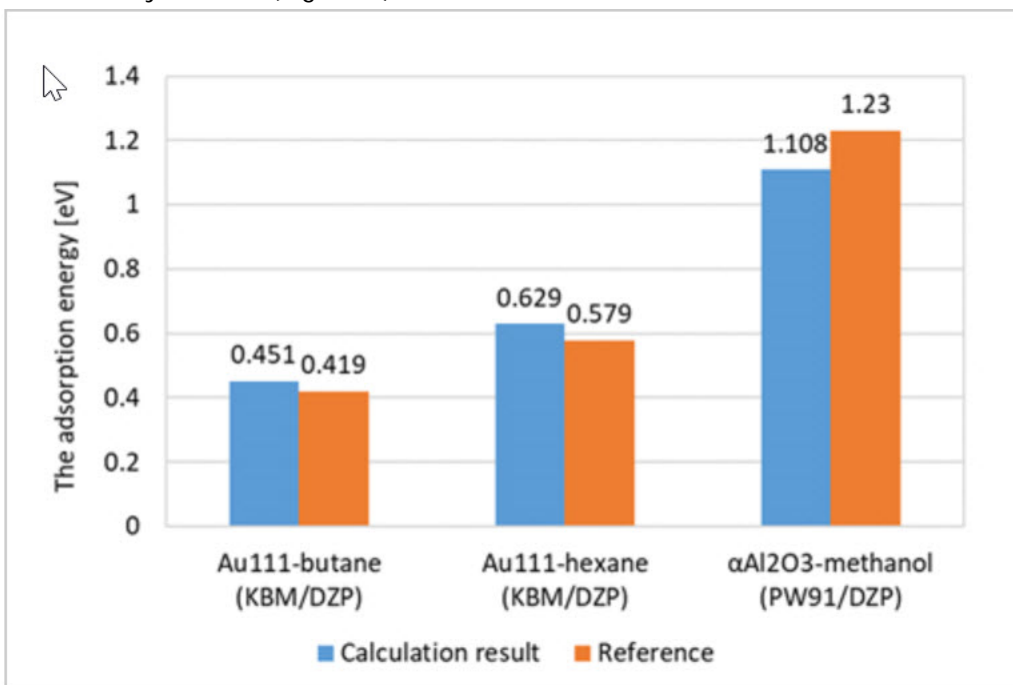

Figure2 Comparison of calculation results of adsorption energy by SIESTA with references
Adsorption energies of alkane molecules on Au(111) were calculated using KBM functional, which takes into account van der Waals interaction. Obtained values are almost equivalent as the reference values [1]. For the α -alumina surface, calculation was performed by applying PW91 functional with according to the reference [2]. As a result, we obtained the result with an error of 0.1 eV. These results show that accurate calculations could be performed by SIESTA. (Figure 2)